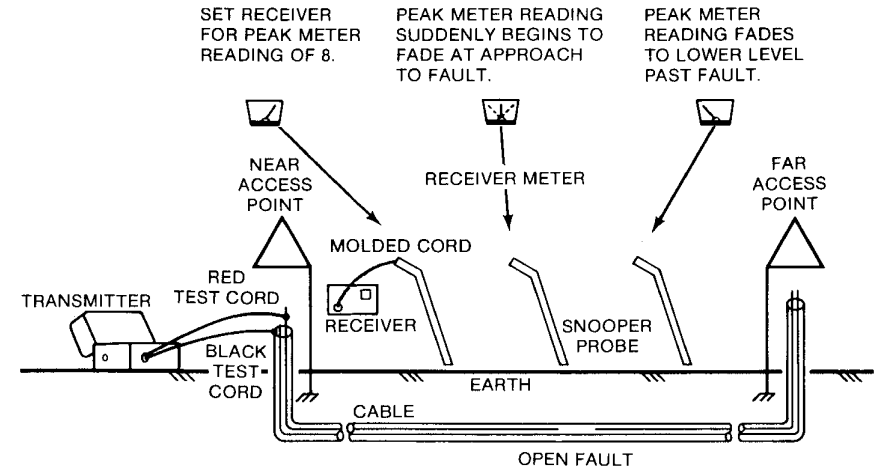

Figure 3-10.
5. Plug the jack end of the red/black test cord into the TRACING TONE jack receptacle on the transmitter (see Figure 3-10).